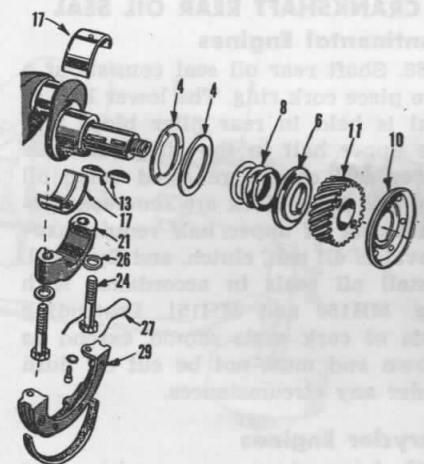

Fig. MH150—Continental engine crankshaft, front main bearing and seal.
Crankshaft end play is controlled by two thrust washers and a series of shim washers as shown in Fig. MH150. One thrust plate is located on the front journal of the crankshaft behind the front main bearing, the other between the rear face of the crank gear and the front face of the front main bearing. End play is adjusted by varying the shim washers. None of the main bearings are flanged. Refer to Table 5 for dimensions and clearances.
66. Shaft rear oil seal consists of a two piece cork ring. The lower half of seal is held in rear filler block and the upper half in the oil guard. The lower seal can be renewed when oil pan and filler block are removed. Replacement of upper half requires removal of oil pan, clutch, and flywheel. Install oil seals in accordance with Fig. MH150 and MH151. Protruding ends of cork seals should extend as shown and must not be cut off flush under any circumstances.